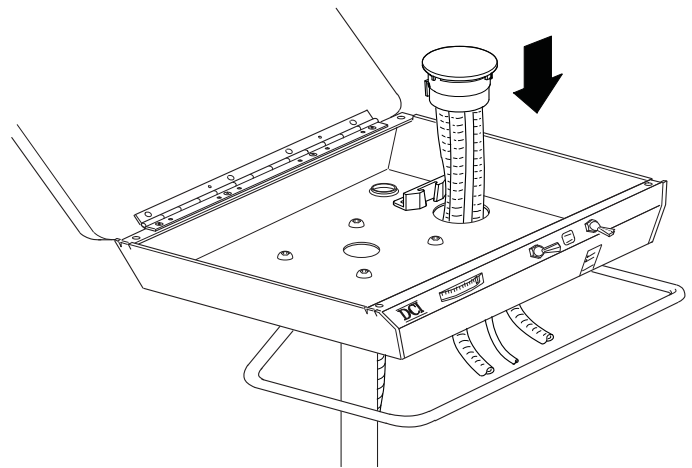

Figure 3
9. To install the vacuum package (see *Figure 3*):
- a. Route the saliva ejector, the two HVE's, and the drain tube through the 2" diameter hole in the base of the control unit (*Figure 3*).
- b. Press the bracket on the vacuum canister into the mounting bracket next to the 2" diameter hole. The canister fits over the hole (*Figure 3*).